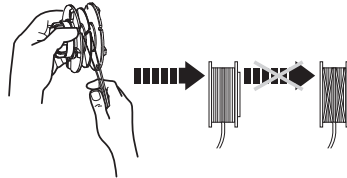

Fig. 31
6. Wind all the trimming lines firmly around the trimming spool in direction of the arrows on the trimming spool (18c) (Fig. 31).